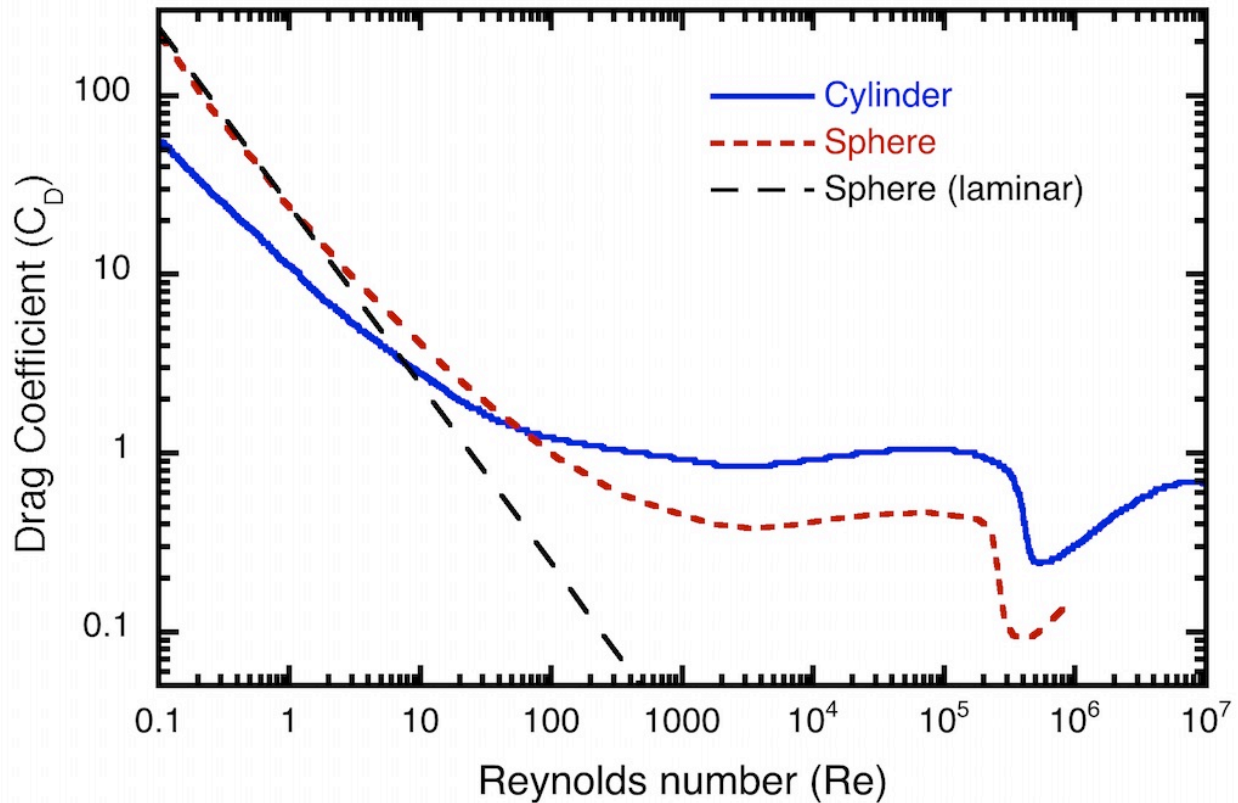

Figure 18. Drag coefficients as a function of Reynolds number for spheres and cylinders.
The above terminal velocity is **only valid for laminar flow**. For turbulent flow, there is no simple analytical relationship between Re_d and C_D , so one must resort to experiments or detailed (and difficult) computer simulations of the Navier-Stokes equations. Figure 18 shows a comparison of the actual C_D vs. Re_d with that predicted by the low- Re_d laminar-flow model. It can be seen that the relation for laminar flow is reasonable up to about $Re_d \approx 3$ but at higher Re_d , the flow is NOT laminar and thus the laminar flow result $C_D = 24/Re_d$ does not apply. As one would expect, C_D is higher with turbulent flow. Note also that at $Re_d \approx 3 \times 10^5$ there is a sudden decrease in C_D .
A similar C_D vs. Re_d plot for cylinders in cross-flow (i.e. with the flow in the direction perpendicular to the axis of the cylinder) is also shown in Figure 18, but for cylinders there is no simple analytical relationship analogous to the $C_D = 24/Re_d$ result for laminar flow over spheres. Note again the sudden decrease in C_D at almost the same Re_d as for spheres. Note that a 3 cm golf ball hit at 70 m/s in air has a Reynolds number of $(70 \text{ m/s})(0.03 \text{ m})/(1.5 \times 10^{-5} \text{ m}^2/\text{s}) = 1.4 \times 10^5$. Dimpling the golf ball decreases the transition Re_d somewhat, and thus enables a lower C_D (actually the dimpling also increases the lift due to the backspin on the ball, but that's beyond our scope.)
- 3) Look up her drag coefficient in Figure 18.
- 3) From Figure 18, $C_D \approx 0.4$